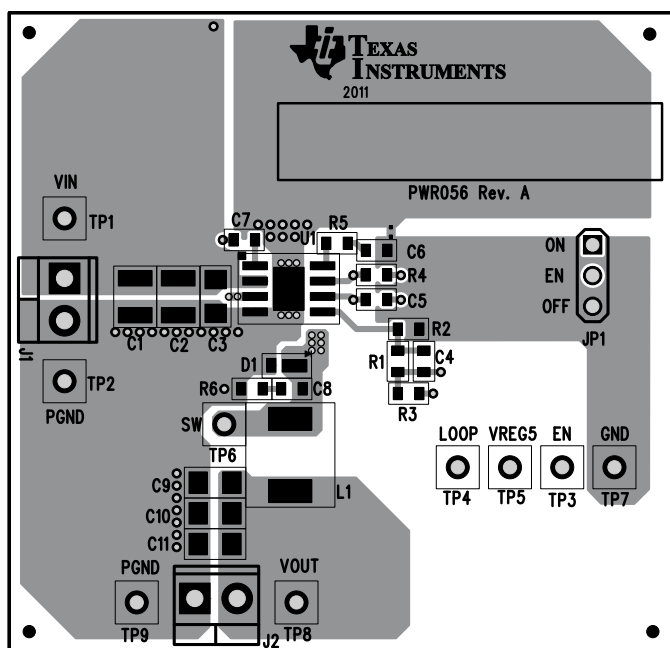
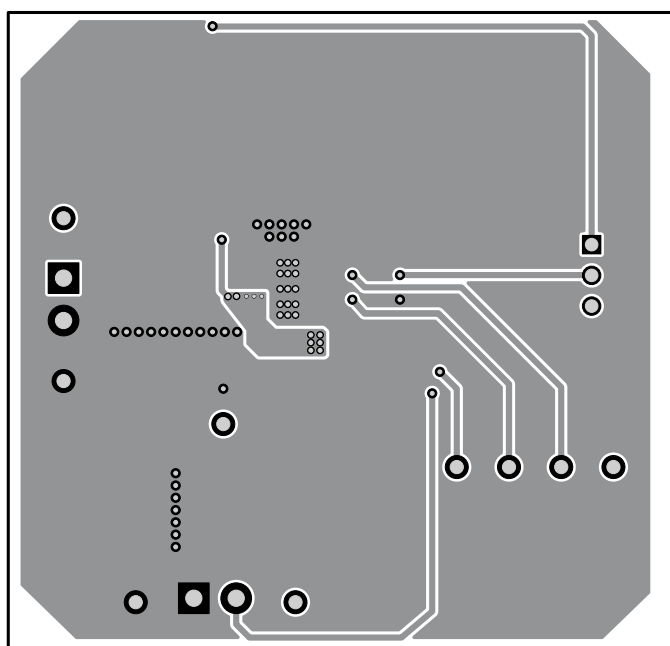

Figure 5-1. Top Assembly
Figure 5-5. Bottom Layer
The board layout for the TPS54229EVM-056 is shown in Figure 5-1 through Figure 5-5. The top layer contains the main power traces for VIN, VO, and ground. Also on the top layer are connections for the pins of the TPS54229 and a large area filled with ground. Many of the signal traces also are located on the top side. The input decoupling capacitors are located as close to the IC as possible. The input and output connectors, test points, and all of the components are located on the top side. An analog ground (GND) area is provided on the top side. Analog ground (GND) and power ground (PGND) are connected at a single point on the top layer near C6. The two internal layers are completely dedicated to power ground planes. The bottom layer is primarily power ground. A copper pour area on the bottom layer is used to connect the switching node (SW) to the output inductor and the boost capacitor. Traces also connect enable control jumper, EN, VREG5, and LOOP test points, and the feedback trace from VOUT to the voltage setpoint divider network.